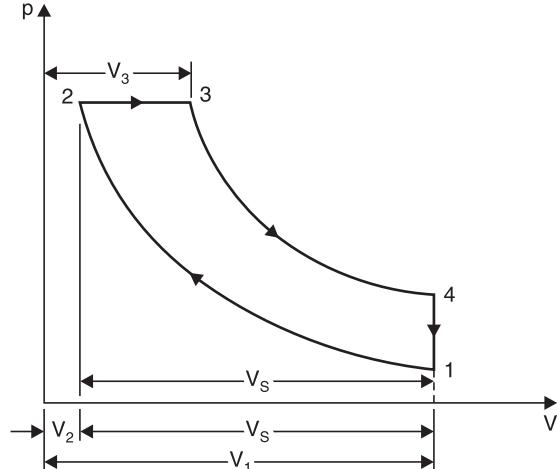

Fig. 4.16
**Solution.** Refer to Fig. 4.16.